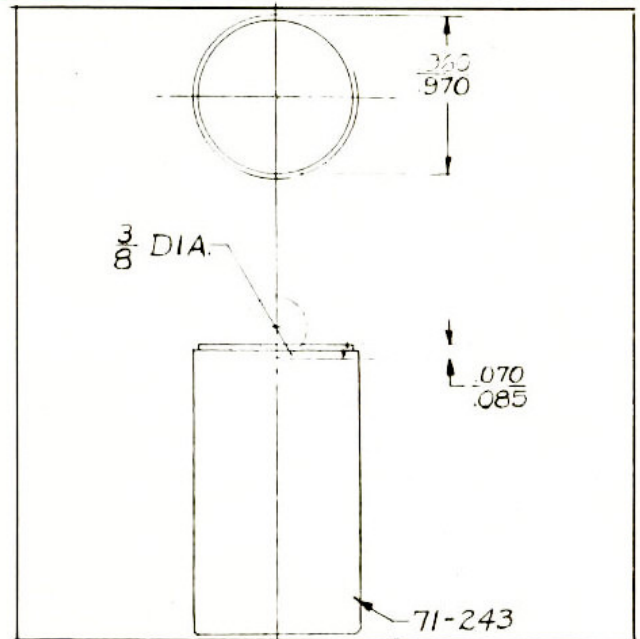

Fig. 98 Reoperation to Eliminate Regulator Valve Buzz
16. New pressure regulator valves (71-243) have a relief at the outer diameter at the closed end for the elimination of regulator valve buzz, (Fig. 98). If a transmission should have a valve buzz and contains a 71-243 pressure regulator valve which does not have the relief, the valve should be replaced, or reoperated as illustrated.